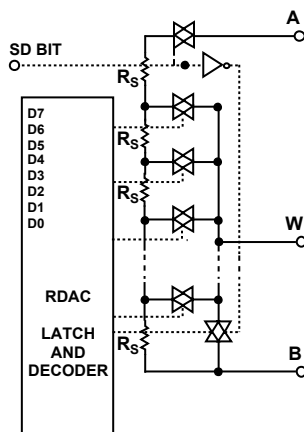

Figure 28. Equivalent RDAC Circuit (A terminal for AD5172 only)
The nominal resistance (R_{AB}) of the RDAC has 256 contact points accessed by the wiper terminal, plus the B terminal contact if R_{WB} is considered. The 8-bit data in the RDAC latch is decoded to select one of the 256 settings. Assuming that a 10 k Ω part is used, the wiper's first connection starts at the B terminal for data 0x00. Such connection yields a minimum of 60 Ω resistance between terminals W and B because of the 60 Ω wiper contact resistance. The second connection is the first tap point, which corresponds to 219 Ω ($R_{WB} = (1) \times R_{AB}/256 + R_W$) for data 0x01, and so on. Each LSB data value increase moves the wiper up the resistor ladder until the last tap point is reached at 10060 Ω ($(256) \times R_{AB}/256 + R_W$). Figure 28 shows a simplified diagram of the equivalent RDAC circuit. The general equation determining R_{WB} is